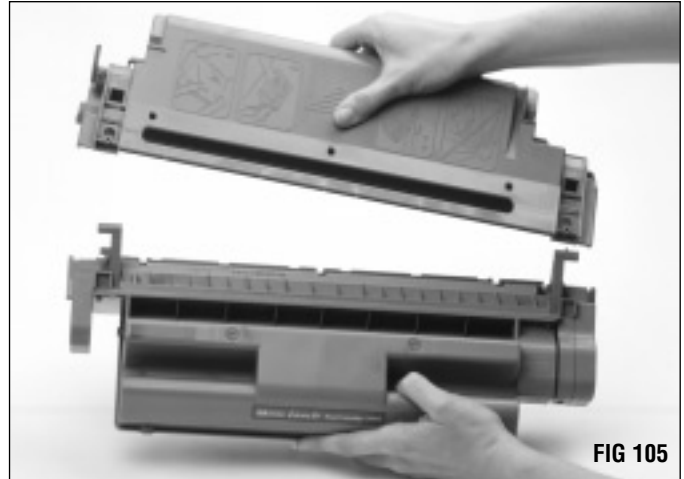

FIG 105
1. Assemble the waste bin and toner hopper sections as shown in FIG 105.